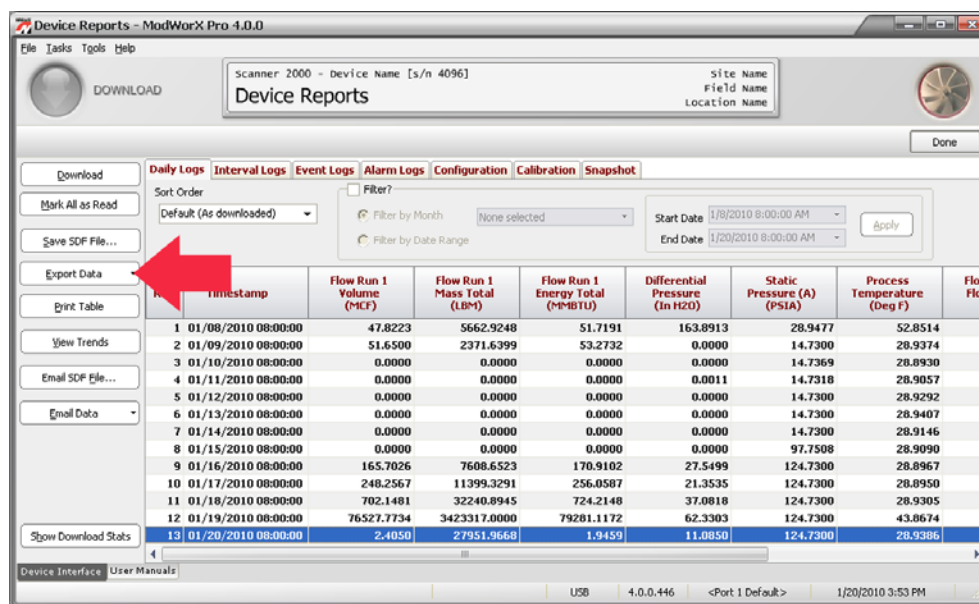

Figure 14.36
1. Click on the appropriate log type tab (Daily, Interval, Events, etc.) to display the reports desired (Figure 14.36).